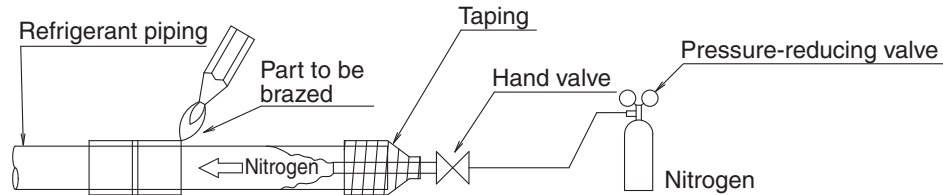

Fig. 15
- Nitrogen should be set to 2.9 psig with a pressure-reducing valve if brazing while inserting nitrogen into the piping. **(Refer to Fig.15)**